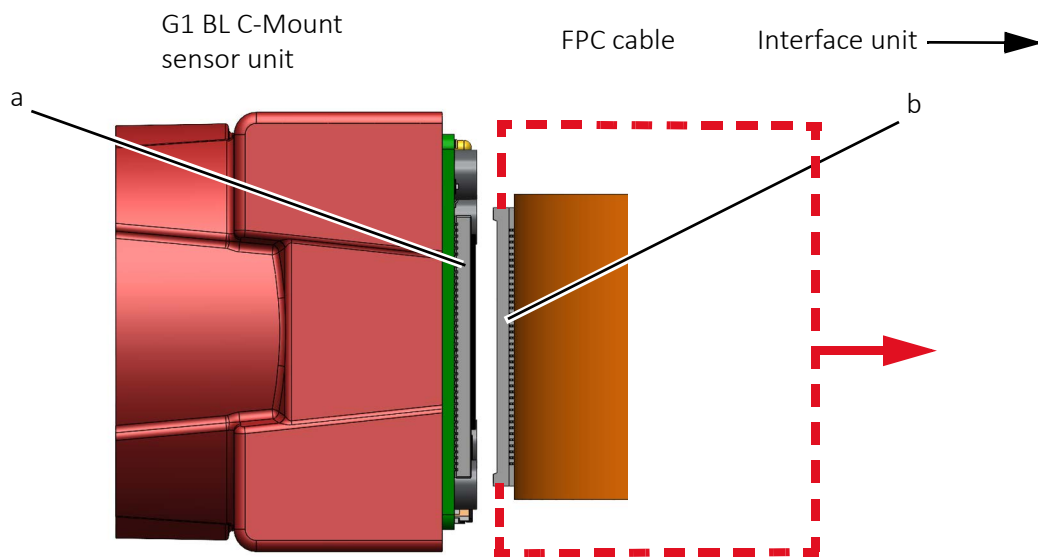

Figure 61: Disconnecting the interface unit from the sensor unit
- Disconnect the FPC cable **only** on the sensor unit side as shown in Figure 61.
2. With 2 fingers grabbing the cable side FPC connector (b) at the edges, disconnect the FPC cable from the FPC connector (a) of the sensor unit as shown in Figure 61.